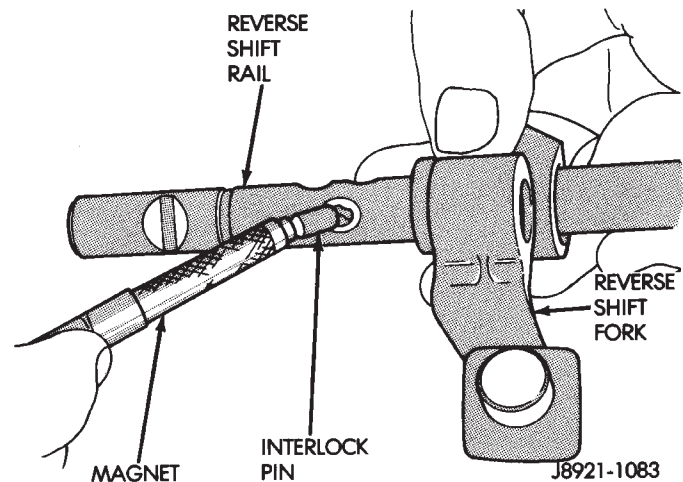

Fig. 53 Removing Reverse Shift Rail Interlock Pin
(14) Remove interlock pin from reverse shift rail (Fig. 53).
(15) Position shift rails, shift forks, lock balls, interlock plugs and interlock pins on the workbench in order of removal. This will help in identifying components during inspection and assembly.